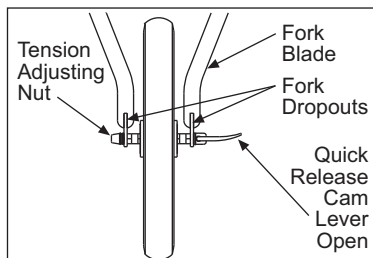

Fig. 11 Front fork dropouts shown with wheel in position. Adjust nut snug with Quick Release in open position.
- Insert the wheel between the fork blades so that the axle seats firmly at the top of the slots that are at the tips of the fork blades — the fork dropouts. The quick release cam lever should be on the left side of the stroller (Fig. 11 & 12).
- Holding the quick release cam lever in the OPEN position with your right hand as shown in Fig. 11, tighten the tension adjusting nut with your left hand until it is finger tight against the fork dropout.